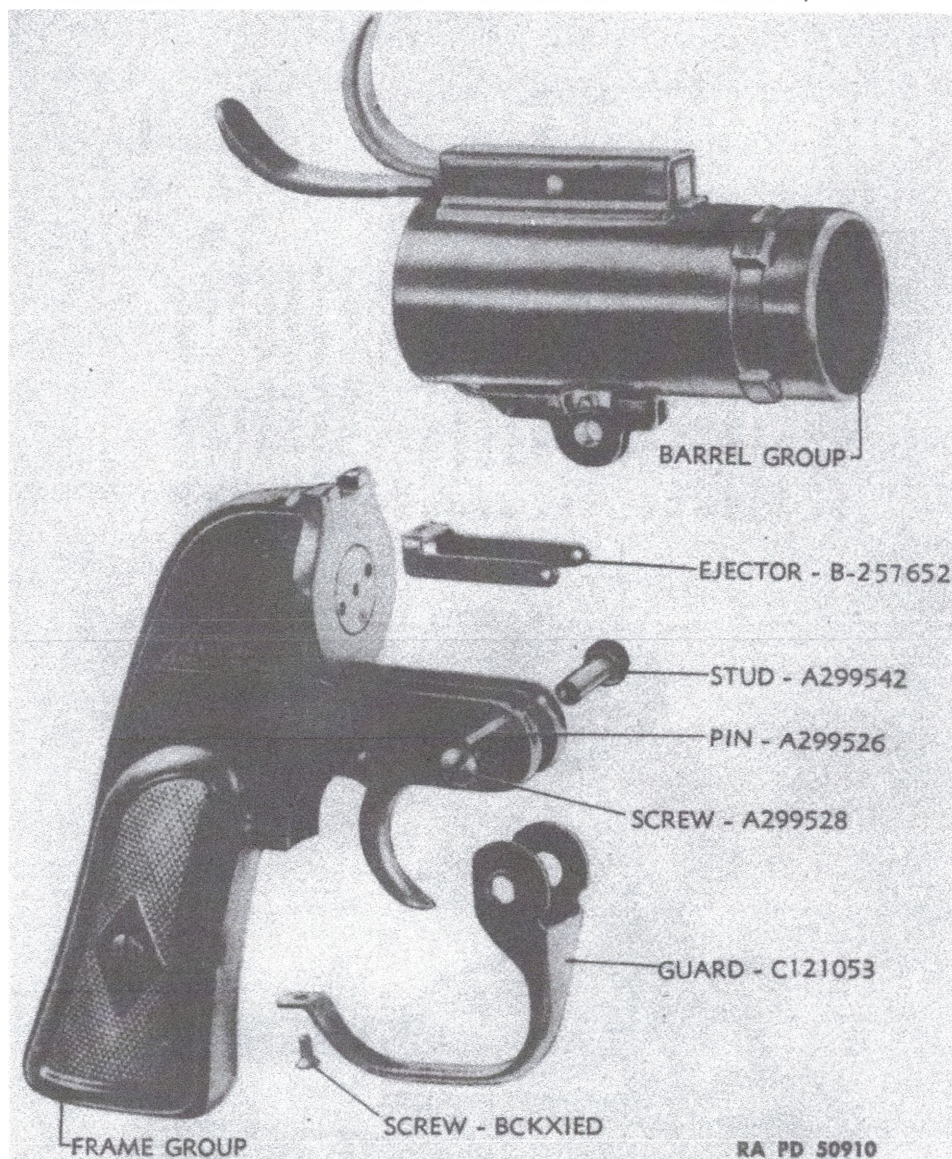
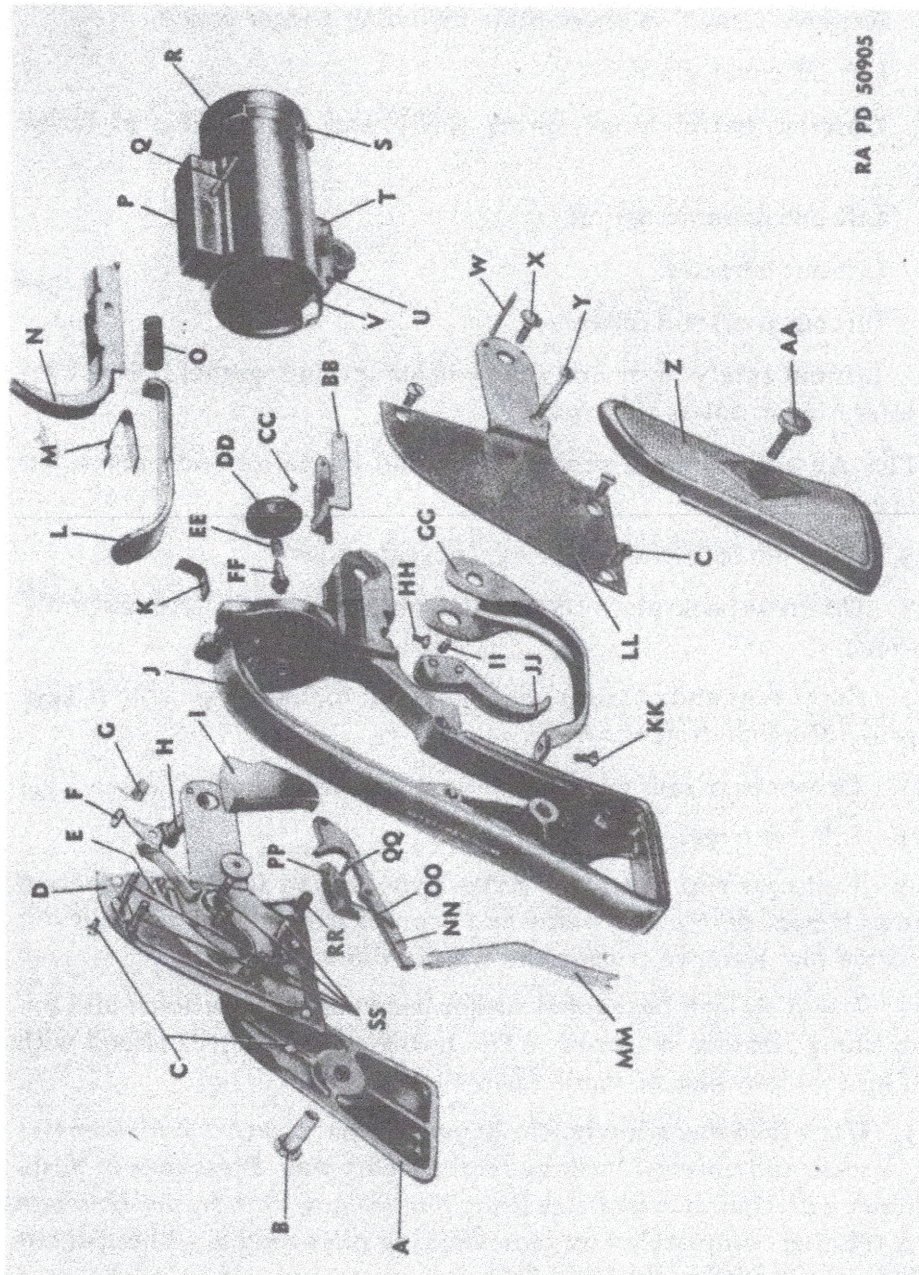

Figure 18 — Pistol, Pyrotechnic, AN-M8 — Groups
Figure 19 — Pistol, Pyrotechnic, AN-M8 — Parts
9. PYROTECHNIC PISTOL AN-M8, WITH MOUNT M1 (figs. 18 and 19).
a. Removal Of Groups (fig. 18). The groups should be disassembled in the following order:
- (1) Unscrew trigger guard screw.
- (2) Unscrew barrel pivot screw and force out barrel pivot stud.
- (3) Pull trigger guard off the frame.
- (4) Drive out ejector pin and remove barrel group from frame group.
b. Replacement Of Groups (fig. 18).
- (1) Replace barrel group in frame. Line up ejector and ejector spring and insert ejector pin in position in frame.
- (2) Replace trigger guard on frame.
- (3) Insert barrel pivot stud in position and screw in barrel pivot stud screw.
- (4) Screw in back trigger guard screw.
c. Disassembly Of Barrel Group (fig. 19). Do not disassemble unless necessary.
- (1) Punch out breech lock pin with drift.
- (2) Grasp the mount latch and slide it out of the breech lock housing. The breech lock, breech lock spring, and the latch spring will also be with drawn by this action.
(3) Do not remove ejector spring unless necessary. To remove it, drive out ejector spring retaining pin.
d. Assembly Of The Barrel Group (fig. 19).
(1) Insert mount latch spring, breech lock, and breech lock spring into mount latch. Slide the assembly into the breech lock housing.
(2) Replace breech lock pin.
(3) If the ejector spring was removed, replace and drive back ejector spring retaining pin and stake it in position.
e. Disassembly Of Frame Group (fig. 19).
- (10) Slide out safety lever spring from safety lever.
- (11) Unscrew back plate screws and push out back plate assembly from frame.
- (12) Force rear end of trigger slide upward to disengage from trigger slide spring. Remove trigger spring.
- (13) Drive out trigger pawl pin and remove trigger pawl.
- (14) Lift out trigger pawl spring.
- (15) Pull rear end of trigger slide downward in frame. This action withdraws trigger partly into frame and exposes trigger slide pin. Lift out trigger slide pin. Remove trigger and trigger slide.
- (16) Use a $\frac{1}{8}$ -inch hexagonal socket-head set screw wrench and unscrew bushing retainer set screw. (The hexagonal wrench is issued with parts. This tool may also be made (par. 4)).
- (17) Use a face spanner wrench, $\frac{5}{8}$ inch center to center, and diameter of pin $\frac{1}{8}$ inch, and unscrew bushing retainer part way. Press face of bushing retainer with thumb to dislodge firing pin bushing from frame. Unscrew bushing retainer completely and remove firing pin bushing. (The spanner wrench is issued with parts (par. 4)).
- (18) Remove firing pin and firing pin spring from firing pin bushing.
f. Assembly Of Frame Group (fig. 19).